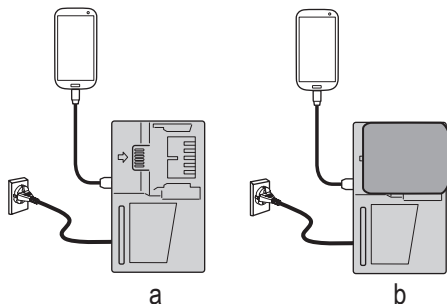

Fig. 32
- Charging a USB device from a electrical outlet. (Fig. 32-a)
- Charging a USB device and battery from an electrical outlet. (Fig. 32-b)